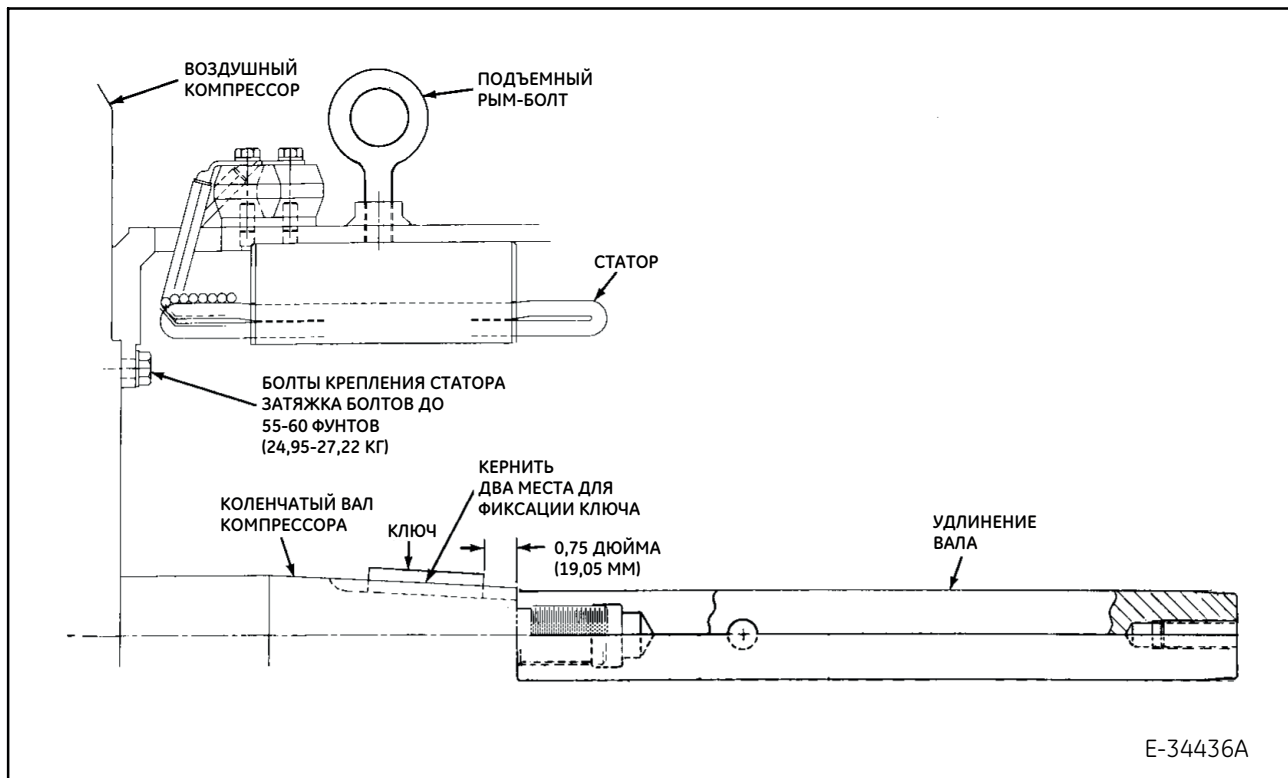

Figure 4. Stator Mounting and Compressor Shaft Extension
9. Mount the shaft extension on the air compressor drive shaft (Figure 4).
11. Assemble an eyebolt to the tapped lifting hole in the top of the stator. Keep jib crane line taut to support stator (Figure 4).
4. Lightly sand the radius on the end of the key. Apply Loctite** (**Product of Loctite Corporation) High Strength Threadlocker 271 on key. Position the key 0.75 in. (19,05 mm) from the end of the keyway and prick punch two places on both sides of the key at the keyway, tap punches flat (Figure 4).
6. Using two locating pins, mounted in the air compressor housing to help guide the stator into place, assemble stator to compressor face. Apply Loctite** (**Product of Loctite Corporation) 242 to the bolt threads and assemble eight bolts and hardened washers to hold stator in place. Torque bolts to 55-60 lb.-ft. (74,59-81,38 Nm) (Figure 4).
7. Mount the shaft extension on the air compressor drive shaft (Figure 4).